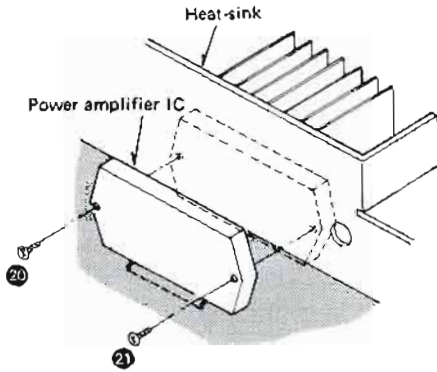

Fig. 5
3. IC can be detached by removing the 2 setscrews. (Fig. 5: ⑳, ㉑) of power amplifier IC.